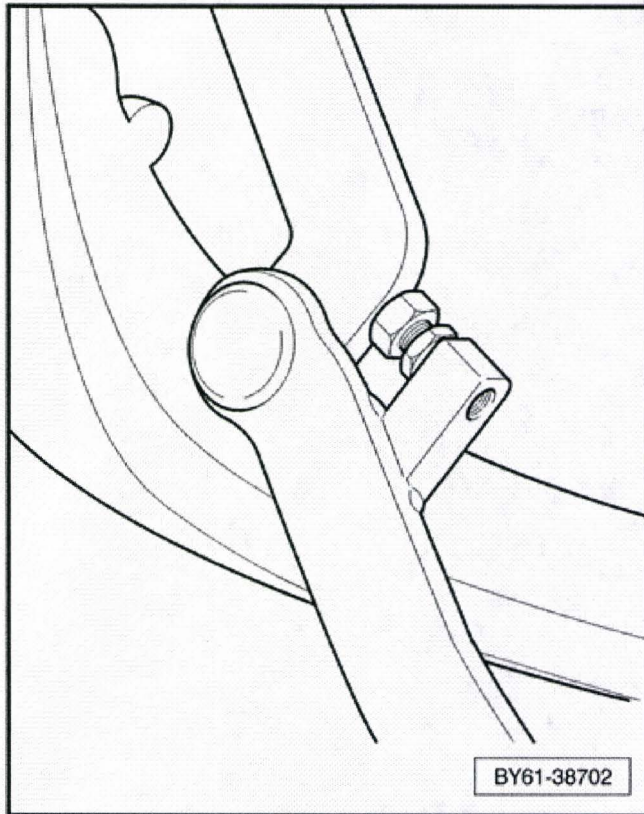

Figure 2
4. With the ignition on, partially raise the power operated roof until the tonneau cover is held in the vertical position and secured against the lock stops on the hinge mechanism (see Figure 2)